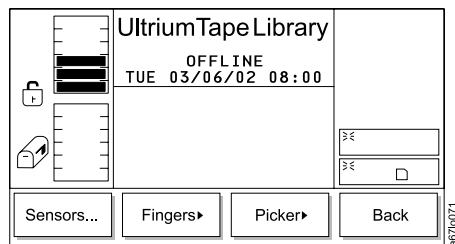

Figure 265. Diags Submenu
4. Press the button below the **Diags** softkey. The Diags Submenu displays (see Figure 265).